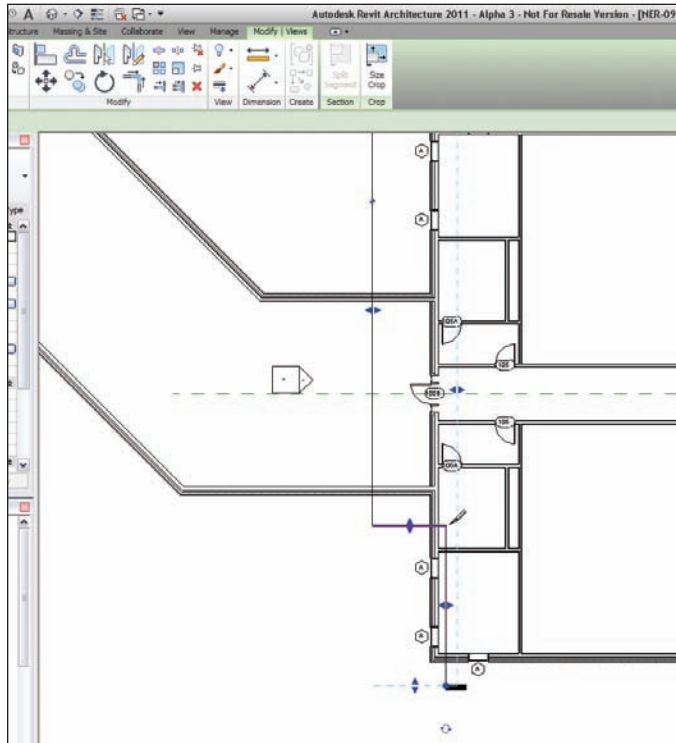

FIGURE 3.59 Logging a section calls for splitting the segment.
8. Pick a point along the section line just below the corridor, as shown in Figure 3.59.